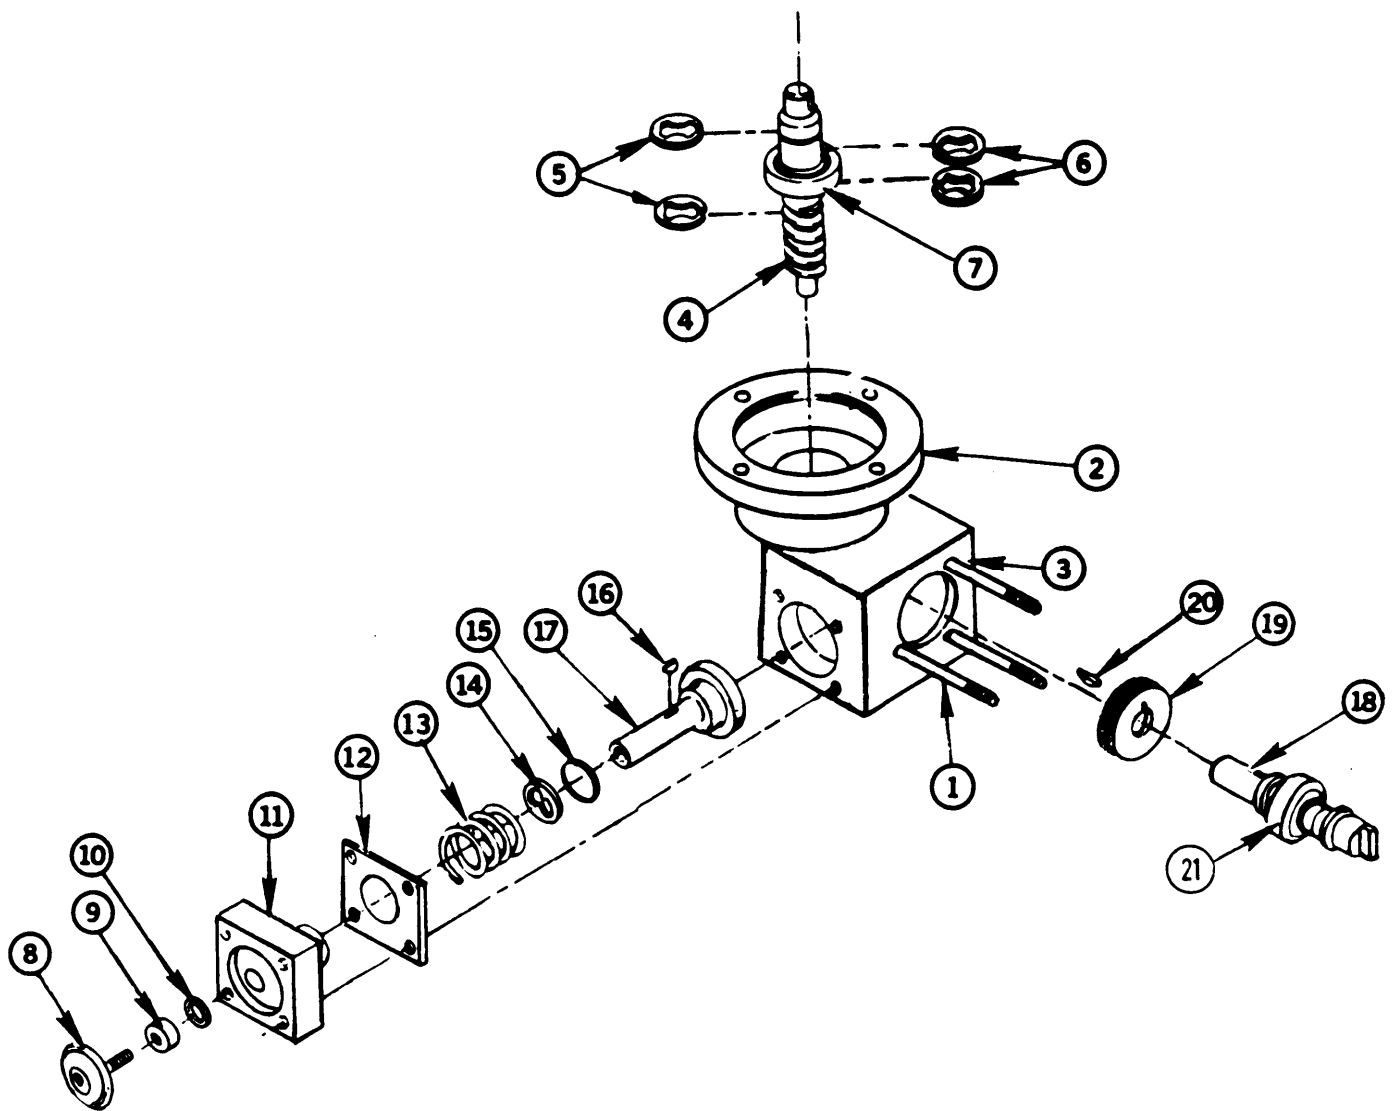

Figure 3-28. Chemical Feed Pump Block Assembly (USMC)
- (13) Remove radial seal ring (12) from guide bushing (10). Discard seal ring (12).
- (14) Remove pump rod spring (13) from pump rod (14).
- (15) Remove pump rod (14) from pump block (22).
- (16) Remove Woodruff key (15) from pump rod (14).
- (17) Drive out flange pin (16) from pump rod (14) and stopping flange (17).
- (18) Remove stopping flange (17) from pump rod (14).
- (19) Remove crankshaft (18) from pump block (22).
- (20) Remove worm wheel (19) from crankshaft (18).
- (21) Remove Woodruff key (20) from crankshaft (18).
- (22) Remove bearing (21) from crankshaft (18).
c. Disassembly of Drive Gear Casing. (Figure 3-28) (USMC)
- (16) Install Woodruff key (6) in worm gear (5).
- (17) Turn worm gear (5) clockwise to install in pump block (22).
- (18) Install coupling (4) in pump block (22).
- (19) Hold motor mounting flange (2) and new gasket (3) in place on pump block (22) and align mounting holes.
- (20) Install four bolts (1) through motor mounting flange (2), gasket (3), and pump block (22).
- (21) Install feed pump stroke adjustment control in accordance with paragraph 3-33
- (22) Install pump head assembly to pump block in accordance with paragraph 3-32.
- (23) Install pump block/head assembly in accordance with paragraph 3-30.
- (24) Install pump head assembly in accordance with paragraph 3-32.
- (25) Install pump motor to pump assembly in accordance with paragraph 2-48.
- h. Installation. (Figure 3-28) (USMC)
- (1) Install ball bearing (21) on shaft (18)
- (2) Install Woodruff key (20) and worm wheel (19) on shaft (1 8).
- (3) Install shaft (18) into pump block (3).
- (4) Install Woodruff key (16), grooved ring (15), C-clip (14), and spring (13) on thrust rod (17) and position in pump block (3).
- (5) Install gasket (12) and diaphragm drive (11) on pump block (3).
- (6) Install push plate (9) and splash protection plate (10) on diaphragm (8) and screw into thrust rod (17),
- (7) Install ball bearing (7) on worm gear (4).
- (8) Install C-clips (5) and (6) on worm gear (4) and screw worm gear clockwise into pump block (3).